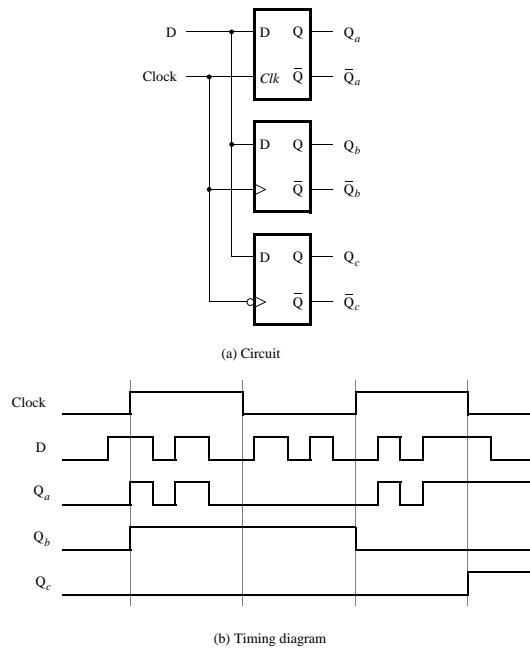

Figure 6: Circuit and waveforms for Part VI.
Figure 6 shows a circuit with three different storage elements: a gated D latch, a positive-edge triggered D flip-flop, and a negative-edge triggered D flip-flop.
4. Simulate this in either QSim or ModelSim. Specify input signals for *D* and *Clock* as indicated in Figure 6. Use functional simulation to obtain the three output signals. Observe the different behavior of the three storage elements, and print out a snapshot of the behaviour.